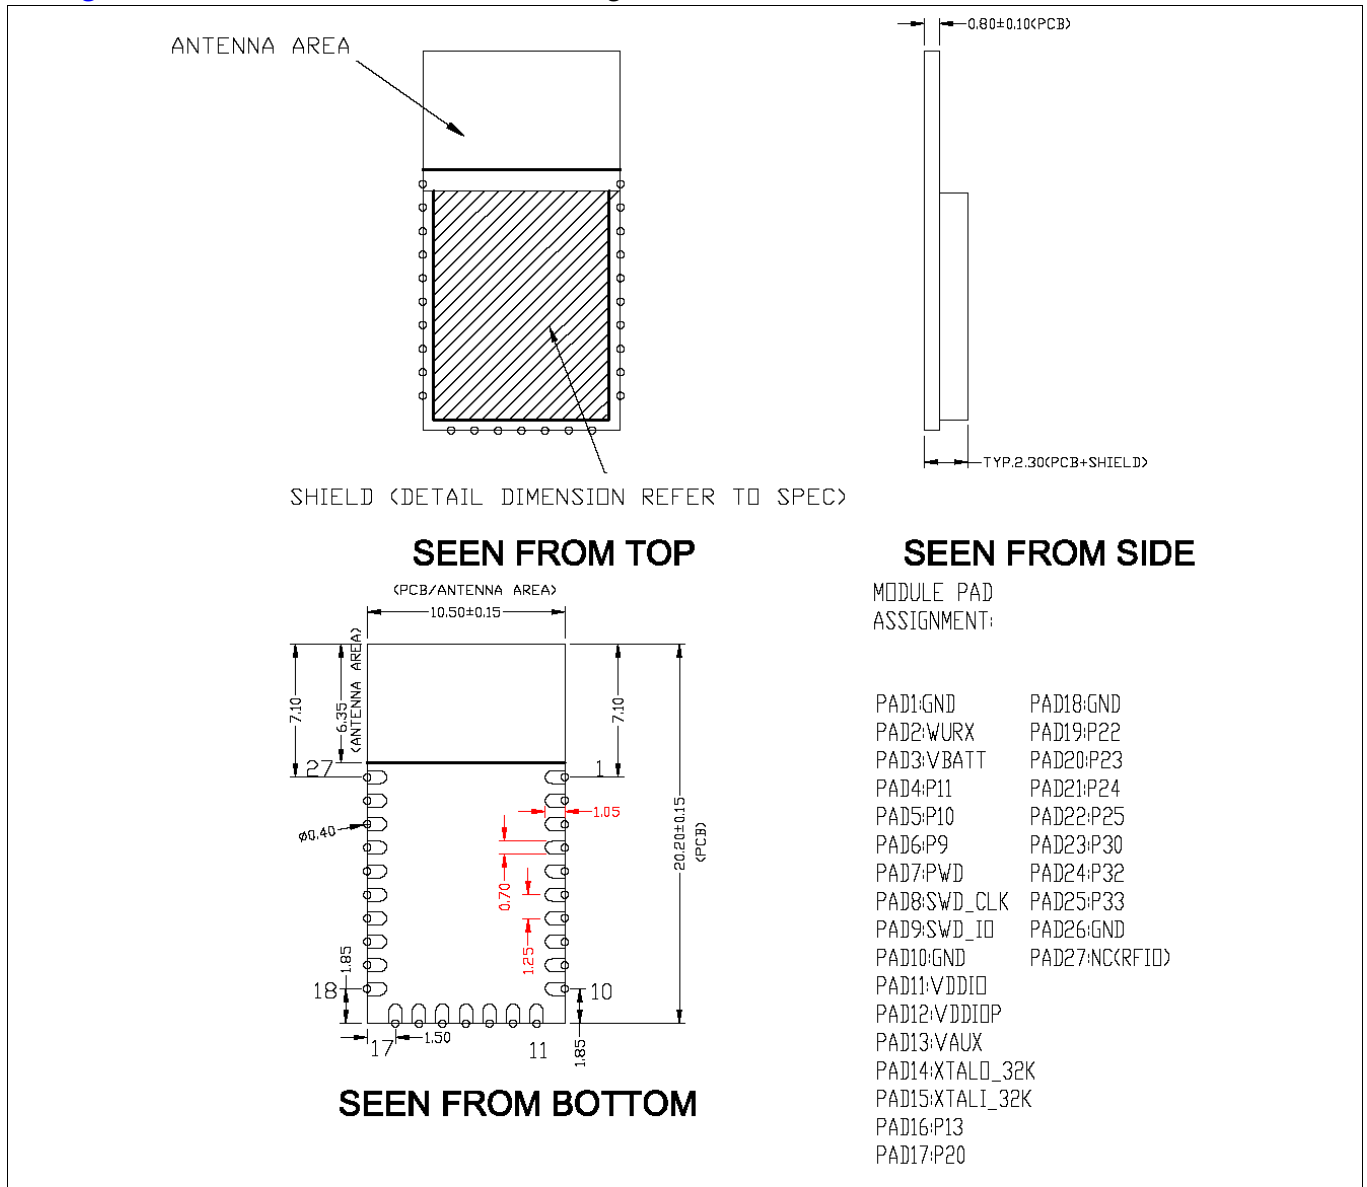
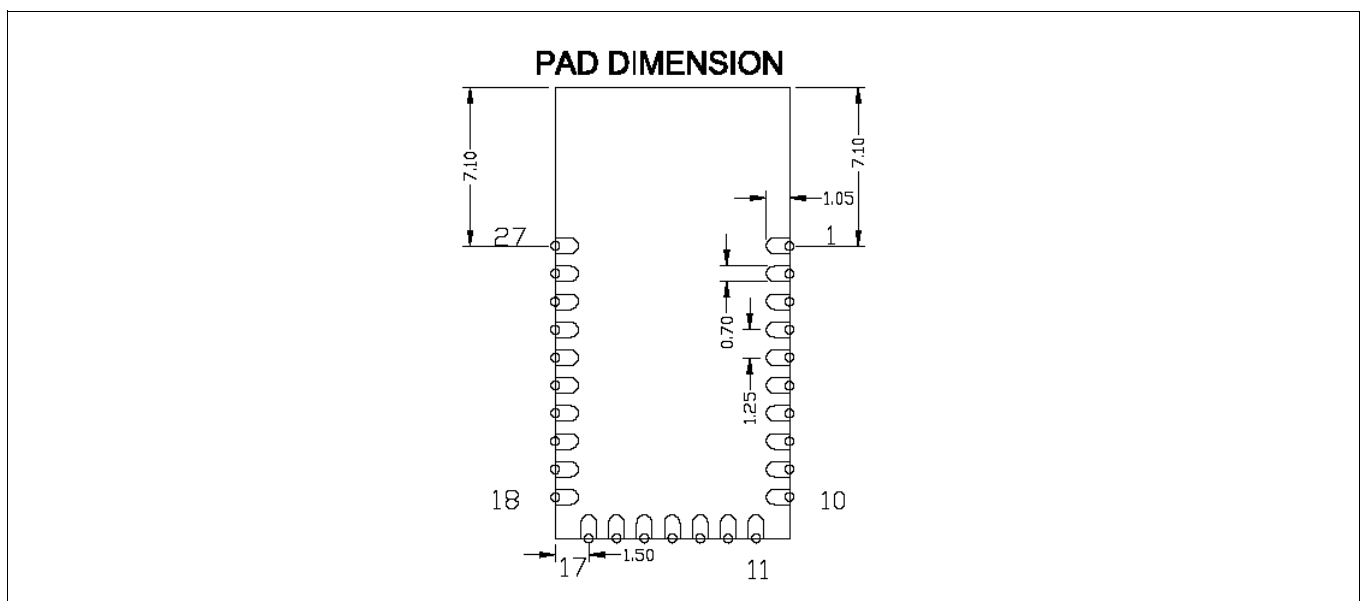

Figure 2 Module mechanical drawing
Figure 3 Solder pad dimensions (seen from bottom)
Infineon reserves the right to select components from various vendors to achieve the Bluetooth® module functionality. Such selections will still guarantee that all mechanical specifications and module certifications are maintained. Designs should be held within the physical dimensions shown in the mechanical drawings in Figure 2. All dimensions are in millimeters (mm).
See **Figure 2** for the mechanical reference drawing for CYW20822-P4xxI040.
As shown in the bottom view of Figure 2, CYW20822-P4xxI040 connects to the host board via solder pads on the backside of the module. Table 2 and Figure 3 detail the solder pad length, width, and pitch dimensions of CYW20822-P4xxI040 module.
1. Antenna Area Keepout: The host board directly below the antenna area of the module (see Figure 2) must not contain ground or signal traces. This keepout area requirement applies to all layers of the host board.
2. Module Placement: The ideal placement of the Bluetooth® module is in a corner of the host board with the PCB trace antenna located at the far corner. This placement minimizes the additional recommended keepout area stated in item 2. See AN96841 for module placement best practices.